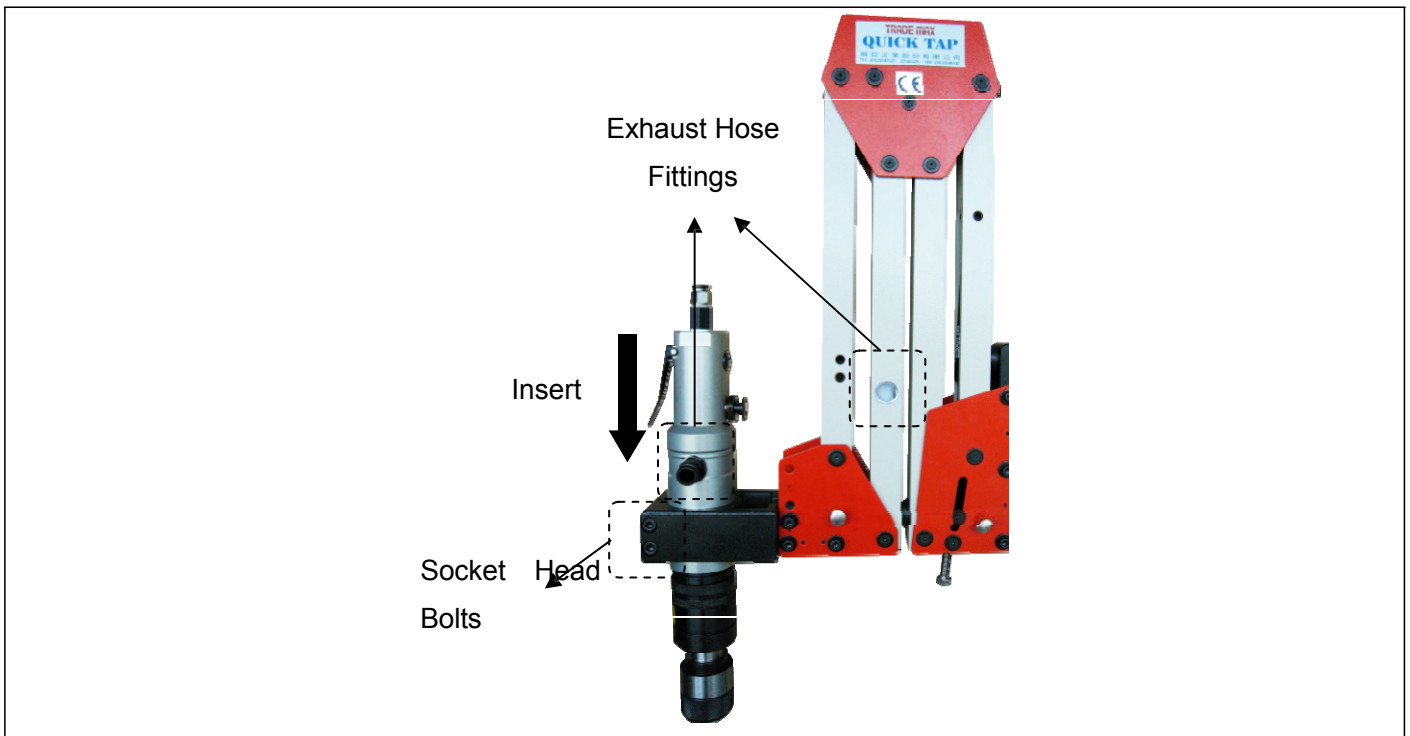

Figure 7-5
- **AT-16/I ~ AT-30/I** (see Figure 7-5)
- (1) Loosen the socket head bolts.
- (2) Insert spindle into bracket of tapping arm, make sure spindle is completely into the bracket and correct position.
- (3) Make sure that exhaust hose fittings of spindle motor and tapping arm are on the same side.
- (4) Fasten the socket head bolt to avoid damages which may be caused by loosened parts.